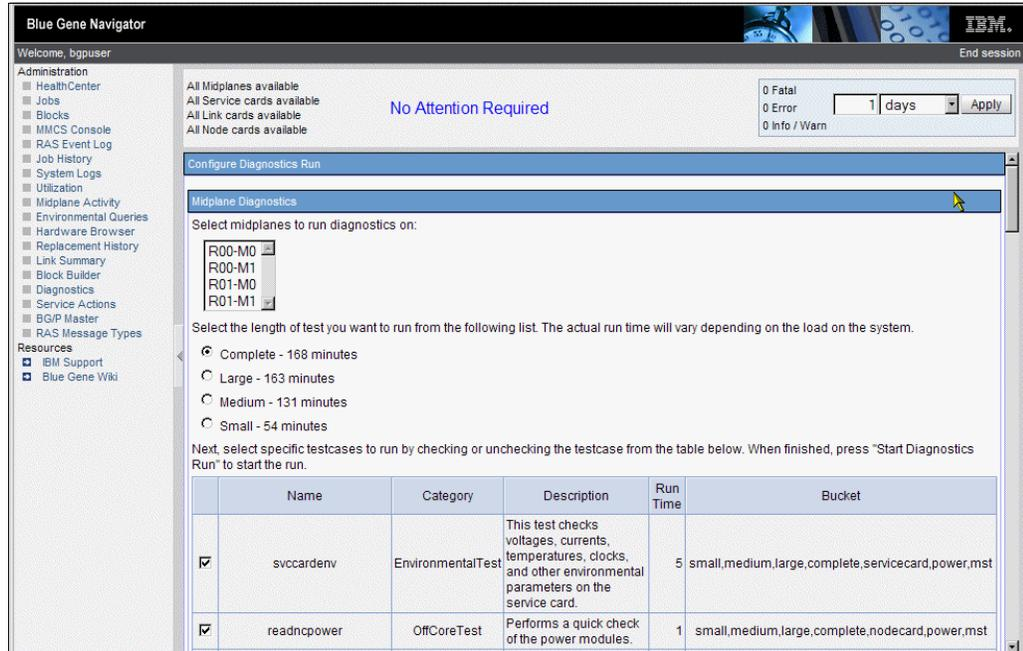

Figure 8-6 Configure Diagnostic run
1. Go to the Summary tab. Under the Running Diagnostics heading, click **Configure New Diagnostics Run**. This opens the page shown in Figure 8-6.